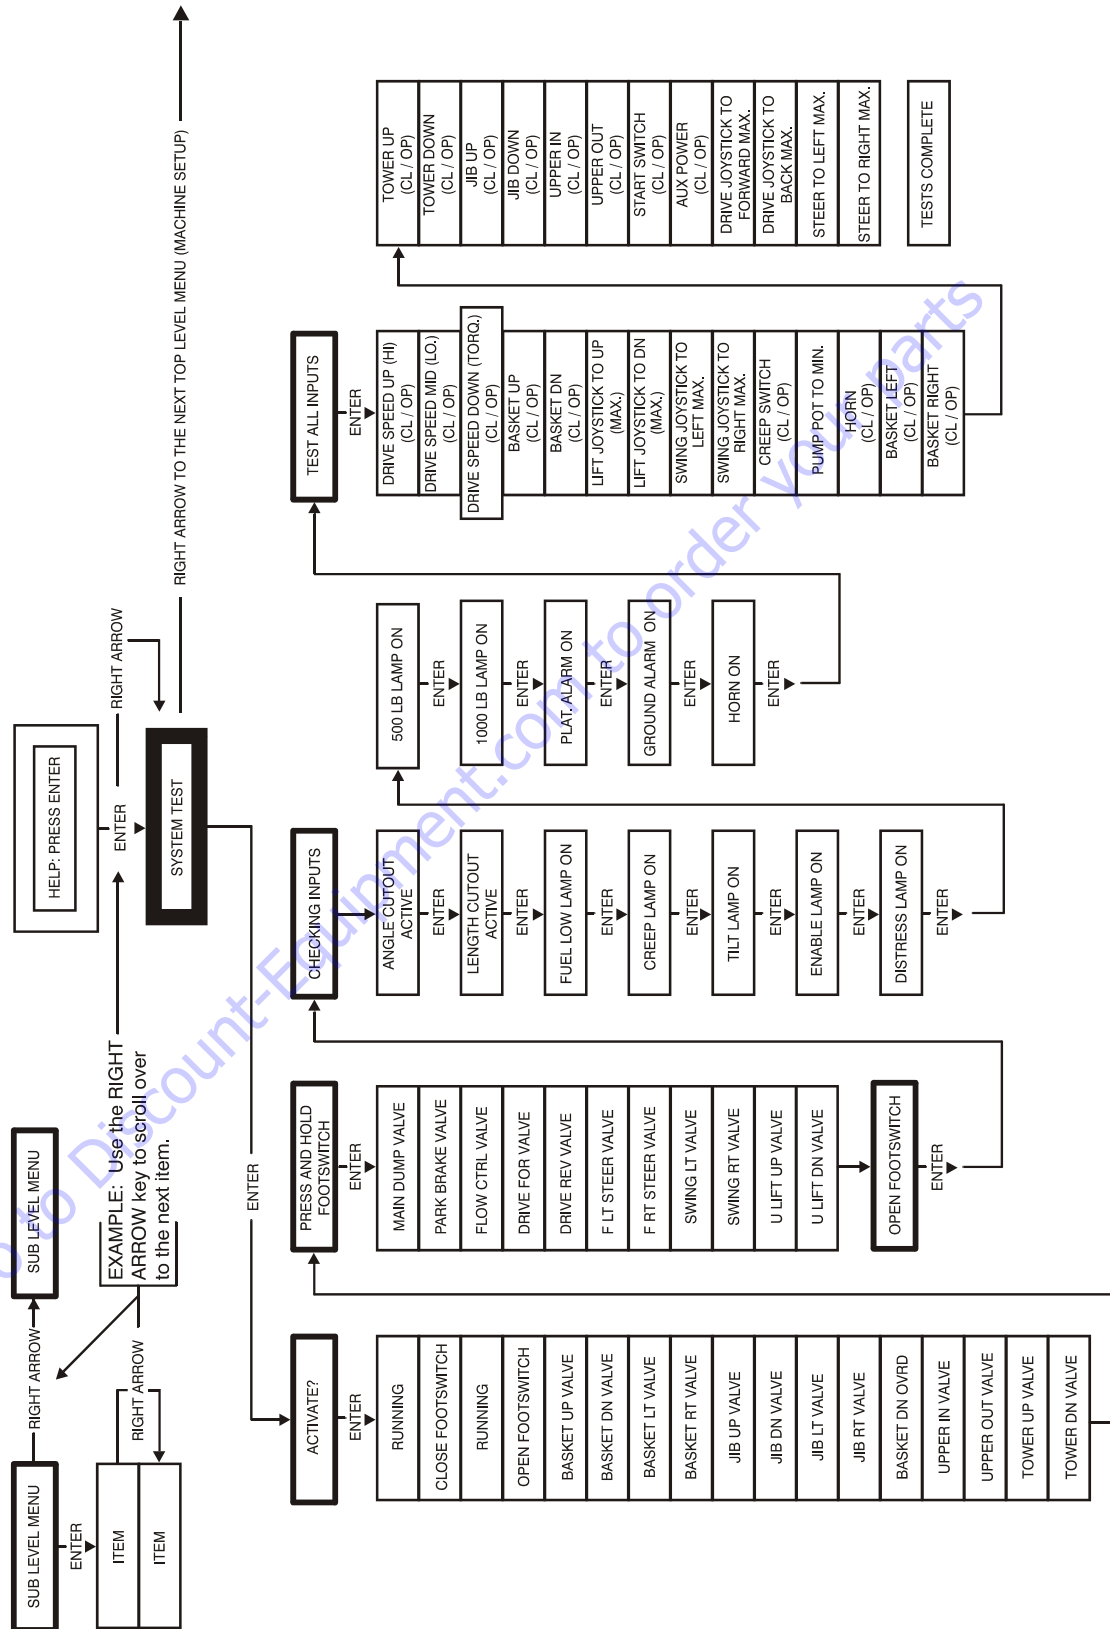

Figure 6-13. System Test Flow Chart - Platform Tests
6. Follow the flow path in Figure 6-13., System Test Flow Chart - Platform Tests and go through the component tests. Hit the ESC key during any part of the test to return to the main menu without completing all tests or wait until all tests are complete. During the TEST ALL INPUTS sequence, the analyzer allows control switches to be operated and shows if they are closed (CL) or open (OP).